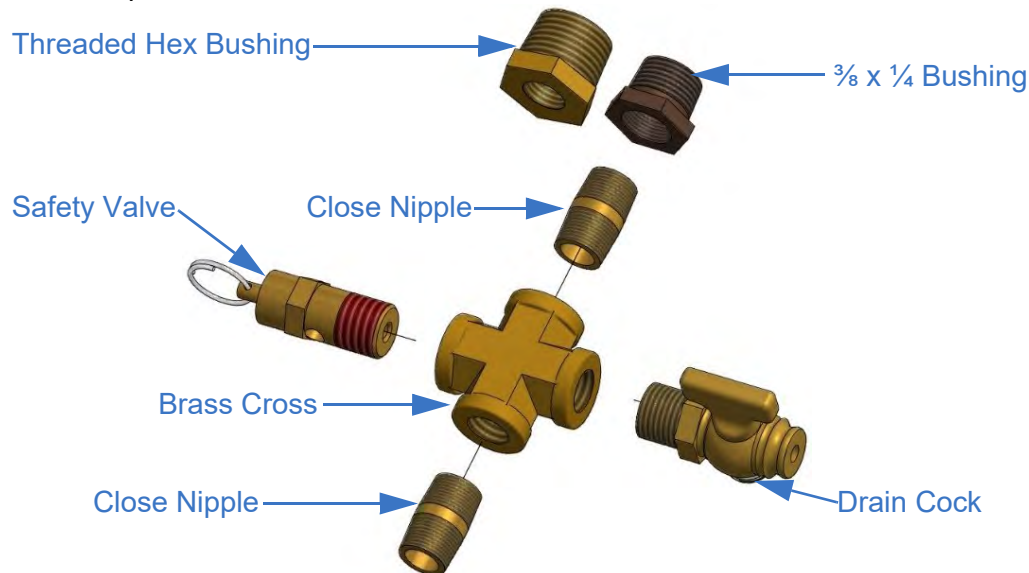

Figure 5-26 Pneumatic System Installation
3. Attach the brass cross to the desired air inlet port with a close nipple (Figure 5-26). Heavy Duty, Super Heavy Duty, and Ultra Heavy Duty masts also require a bushing. Apply PTFE tape to all threaded joints. If necessary, an air hose may be used to connect between the air inlet port and the brass cross, however, the brass cross should be installed as close to the mast as possible to ensure proper drainage.